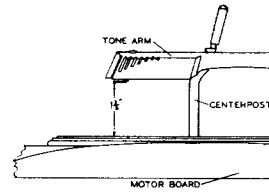

Figure 4
2. Turn the adjustment screw "A" until the sapphire is $1\frac{3}{8}$ inches above the turntable. This adjustment will permit the pickup to land and play one record placed on the turntable. At the same time it prevents the tone arm from touching the record resting on the centerpost while the mechanism is going through cycle. (If this height cannot be reached by the adjustment screw, take up on the cotter pin.) (Figures 4 and 5.)